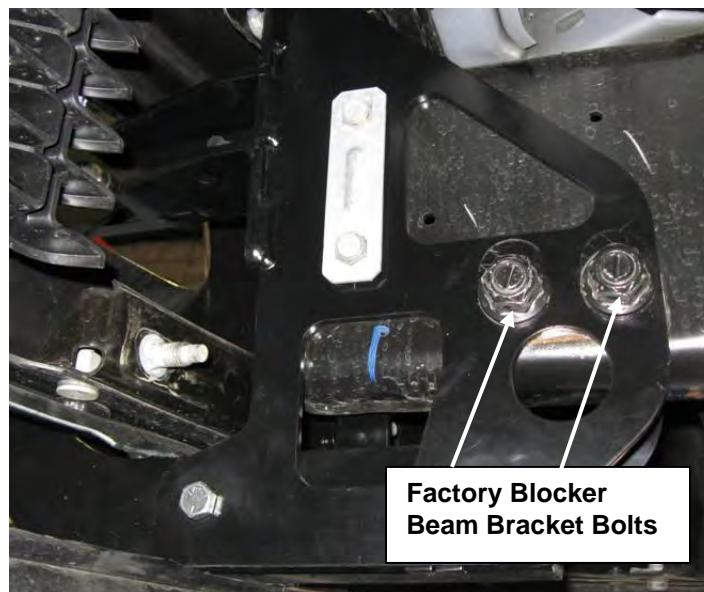

Figure 1: Bolts attaching Frame Extension Bracket to frame (viewed from center of vehicle, looking outward)
1. Install the appropriate Frame Extension bracket. Lift the intercooler (if equipped) and reinstall the factory “paired bolts” from the inside, through the Frame Extension. Install the factory nuts. Do not tighten any hardware yet. Repeat for the opposite side. See **Figure 1**.